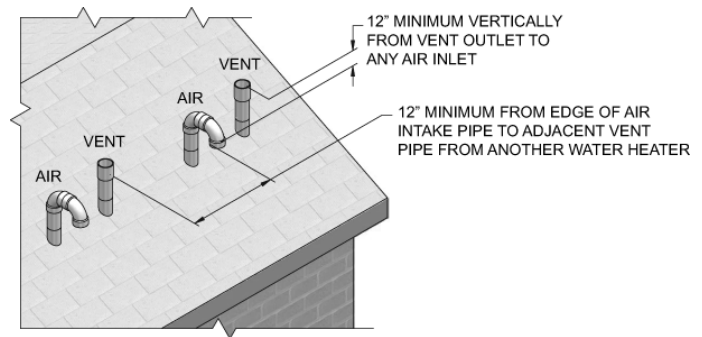

Figure 45. Vertical Terminations with Multiple Water Heaters
1. When terminating multiple XP water heaters, terminate each vent/air connection as described in this manual (Figure 45).
2. Place roof penetrations to obtain minimum clearance of 12 inches between edge of air intake elbow and adjacent vent pipe of another water heater for U.S. installations (see Figure 45).